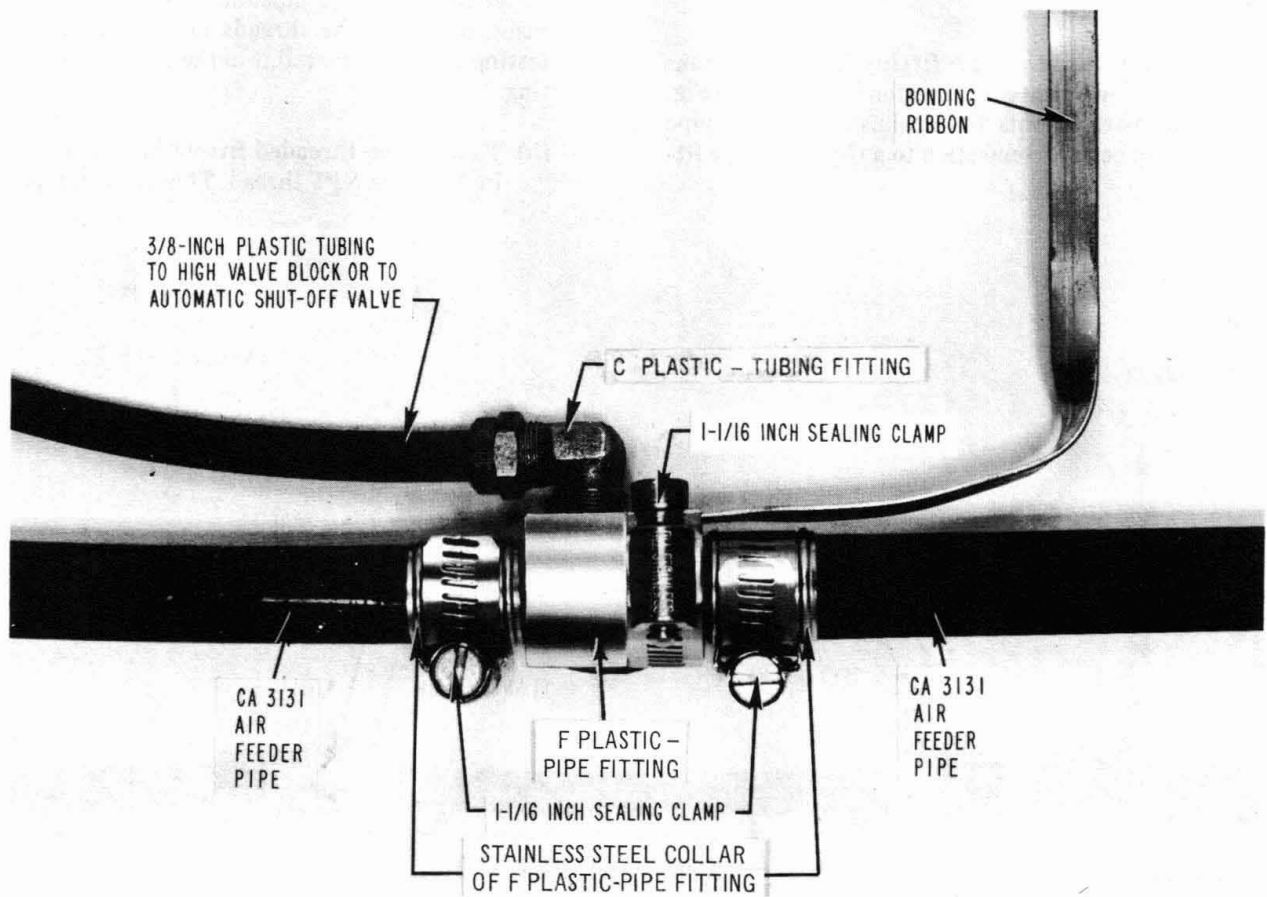
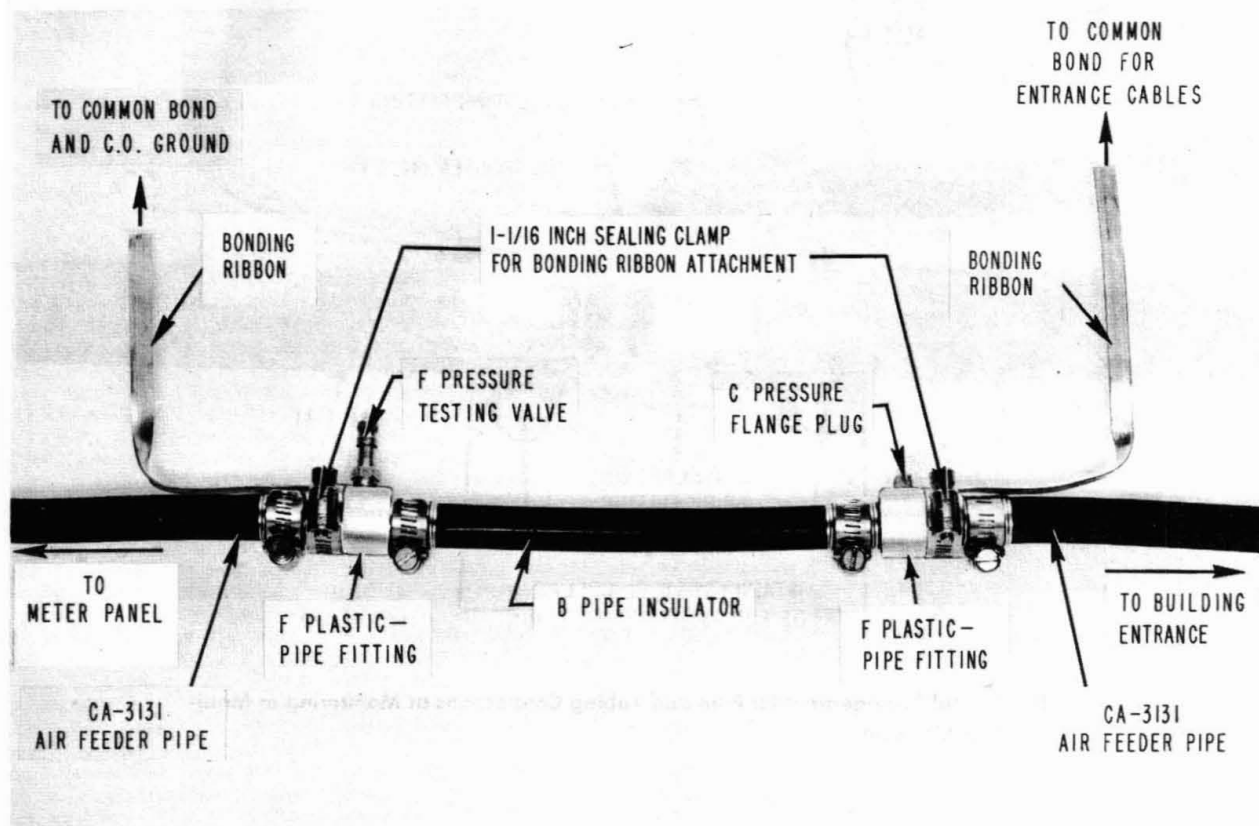
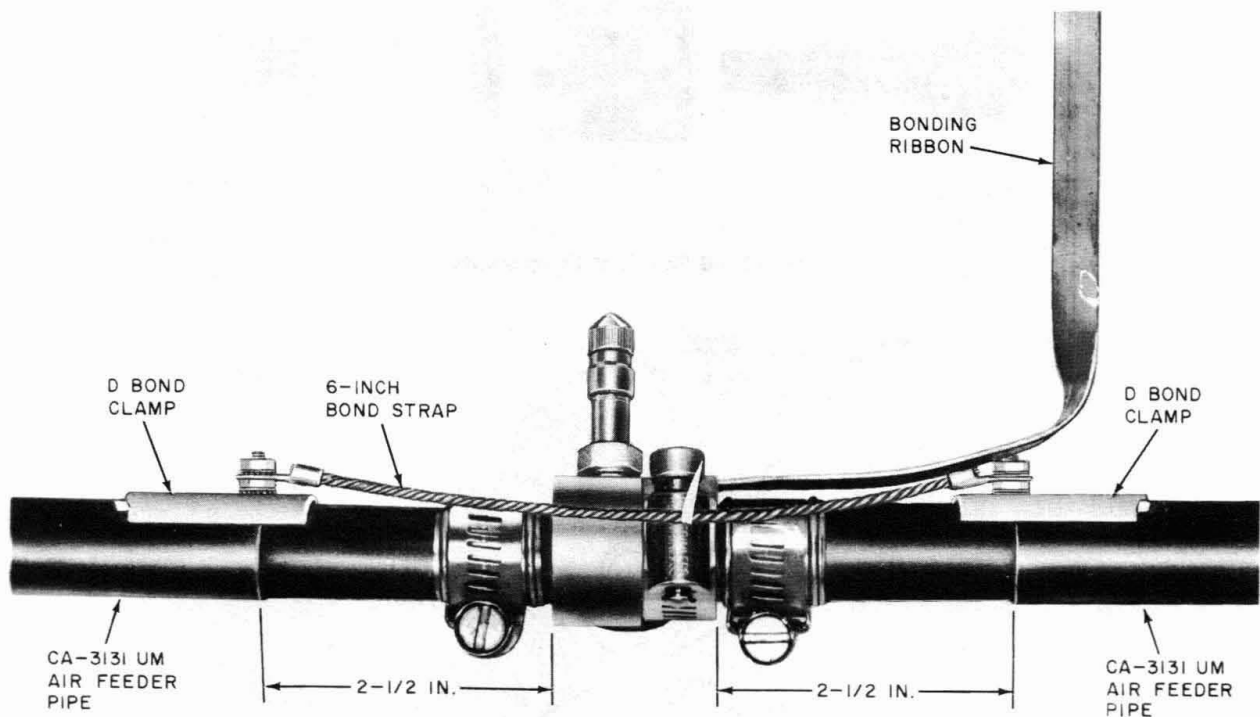

Fig. 5—Typical Arrangement for Pipe and Tubing Connections at Monitoring or Manifold Manholes
Fig. 6—Pipe Arrangement Where Insulating Joint Is Required
Fig. 10—Maintaining Continuity When Connecting Two Sections of CA-3131 UM Air Feeder Pipe
- (b) At high-valve and manifold manholes where plastic tubing connections to the pipe will be required (Fig. 5), coat the threads of a C plastic tubing fitting with TEFLON pipe sealing tape and install it in the port of the fitting.
Secure the bonding ribbon to the fitting with a sealing clamp (Fig. 5).
(d) With the B pipe insulator for making an insulated joint in CA-3131 air feeder pipe at CO vaults where insulating joints are required in the entering cables (Fig. 6).
5.05 ♦At underground locations where rodents are a problem, or for direct burial, CA-3131 UM air feeder pipe which has mechanical protection should be used.♦ The connection of the innersheath of CA-3131 UM is identical to CA-3131, as outlined in paragraph 5.03. Maintaining continuity of outer sheath requires the removal of 2-1/2 inches of UM protection from each section of pipe and D bond clamps and bond strap installation as shown in Fig. 10.
7.01 When a conduit section is blocked or it is desired to feed from a pole-mounted air dryer to a manifold in a manhole, it may be necessary to place CA-3131 or CA-3131 UM air feeder pipe along the pole line. In such cases, the pipe can be placed in one continuous length and lashed to an existing strand and cable. The pipe shall be bonded to existing cable at the first, last, and every fifth section as is required for polyethylene sheath cables. The bonding arrangement on the pipe is as shown in Fig. 5. Where an insulating joint is required, it also shall be placed in the pipe, as shown in Fig. 6. Where CA-3131 UM is used, continuity should be maintained as shown in Fig. 10 and bonded to existing cable at the same locations specified for CA-3131.